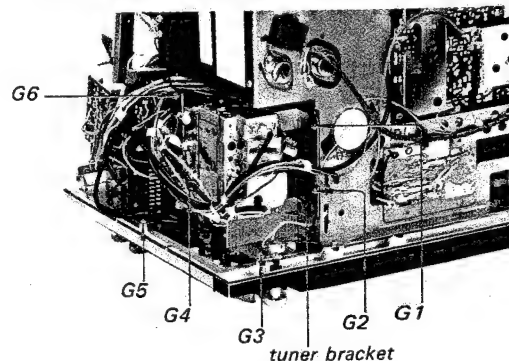

Fig. 2-10.
3. Remove the six screws labeled G1~6 in Fig. 2-10.